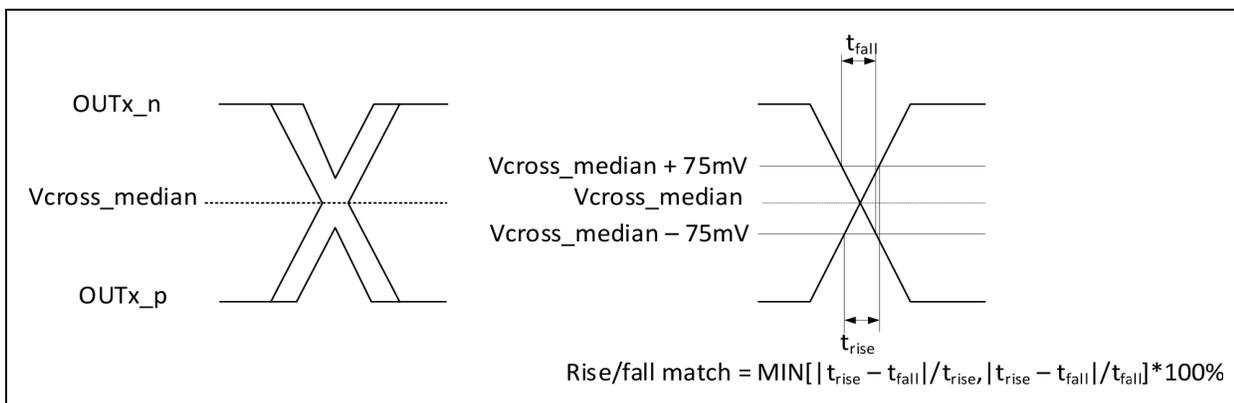

FIGURE 3-3: Single-Ended Measurement Points for Rise and Fall Time Matching.
- 13:** Matching applies to rising edge rate for CKx and falling edge rate for CK#x. It is measured using a ± 75 mV window centered on the median cross point where CKx rising meets CK#x falling. The median cross point is used to calculate the voltage thresholds the oscilloscope is to use for the edge rate calculations. The Rise Edge Rate of CKx should be compared to the Fall Edge Rate of CK#x the maximum allowed difference should not exceed 20% of the slowest edge rate. See Figure 3-3.